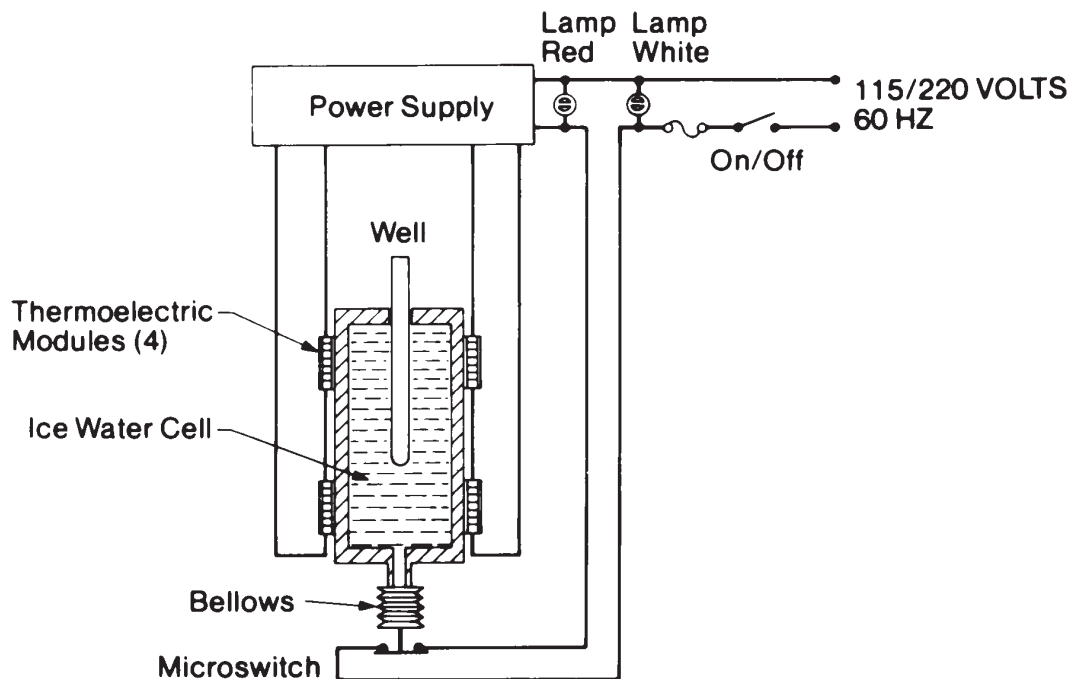

Figure 4-1. Interior View of the ice point Reference Cell
- Below the power switch and light are 6 reference wells (5/32" ID holes) where up to 6 thermocouple probes can fit in to be tested. Refer to Figure 4-1. These reference wells extend into a sealed cylindrical cell containing distilled, deionized water. The reference cell wall is cooled by thermo-electric modules. When ice is formed within the reference cell, an increase in volume is sensed by the expansion of a bellows. This bellows actuates a microswitch which turns off power to the modules. As the ice within the reference cell begins to melt, the bellows contract. This activates the microswitch, which in turn energizes the cooling modules. The microswitch actuator is factory-adjusted to maintain sufficient ice within the reference cell to maintain a well temperature within  $0^{\circ}\text{C} \pm 0.1^{\circ}\text{C}$ . The sensitivity of the bellows mechanism is such that the amount of formation and melting of ice will provide stability to within  $\pm 0.04^{\circ}\text{C}$ .